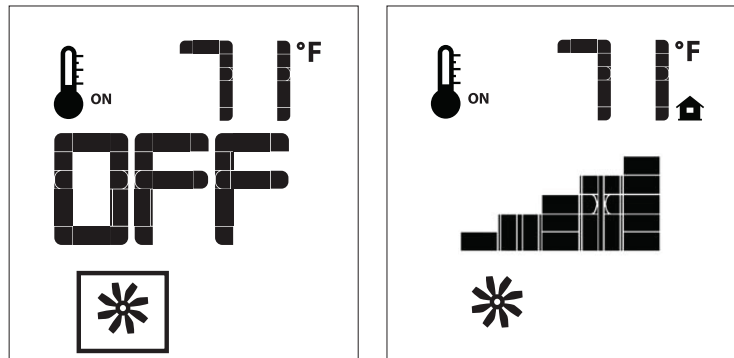

Figure 13: Fan Control
The Q2GI comes with a convection fan that can be controlled with the Transmitter. The fan speed can be adjusted through six (6) speeds. To control the fan press the MODE key (Figure 5) to index to the fan control icon (Figure 13). Use the UP/DOWN arrow keys to turn on, off, or adjust the fan speed (Figure 13). A single beep from the IFC will confirm the command has been received